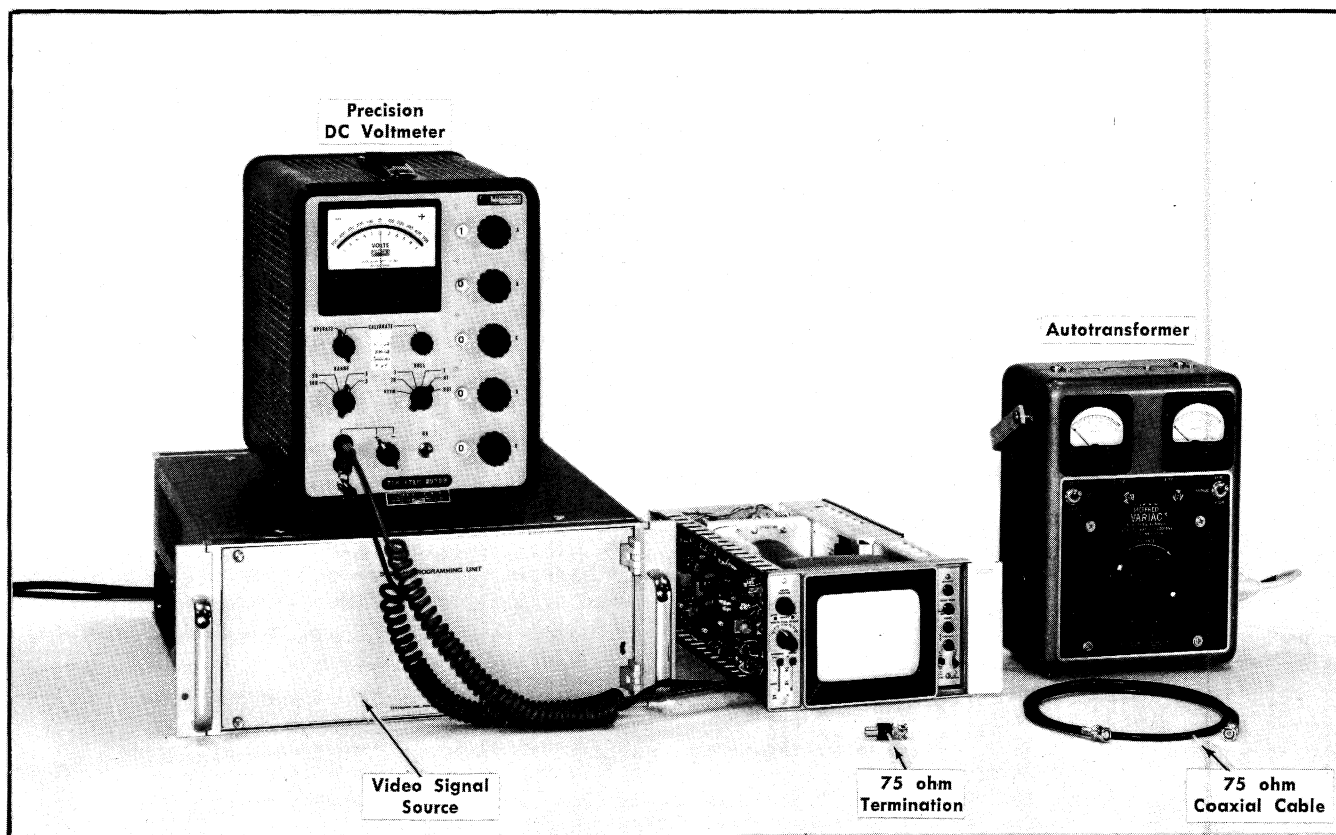

Fig. 5-1. Initial calibration test equipment setup for steps 1 through 5.
a. Test equipment setup is shown in Fig. 5-1.